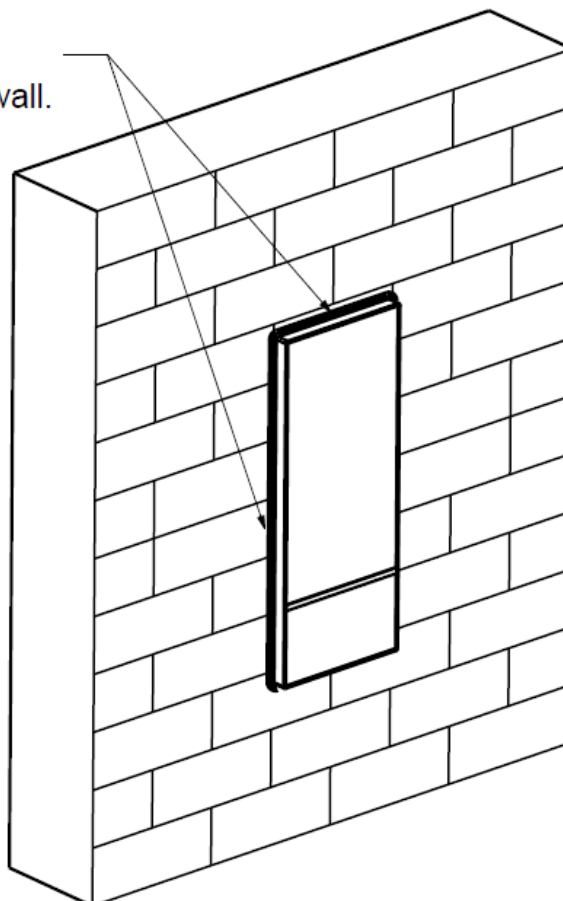

Figure 3-3
- Step 5. Apply silicone sealant to gaps between the device and the wall. See Figure 3-3.